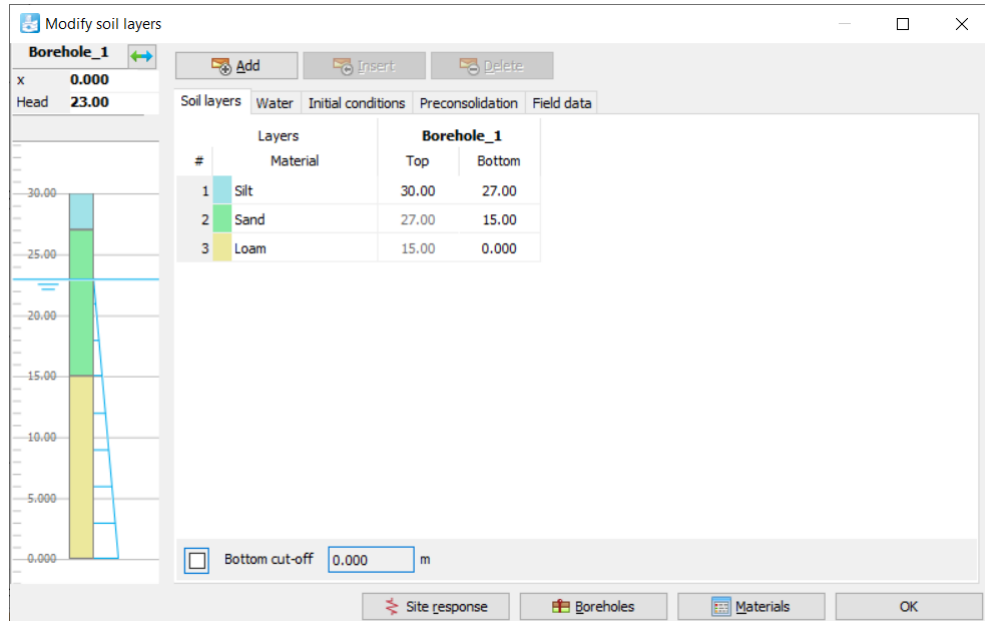

Figure 7-2: The Modify soil layers window
The layer stratigraphy is shown in Figure 7-2 \(p. 123\):
- 2 Assign the material data sets to the corresponding soil layers (Figure 7-2 \(p. 123\)).